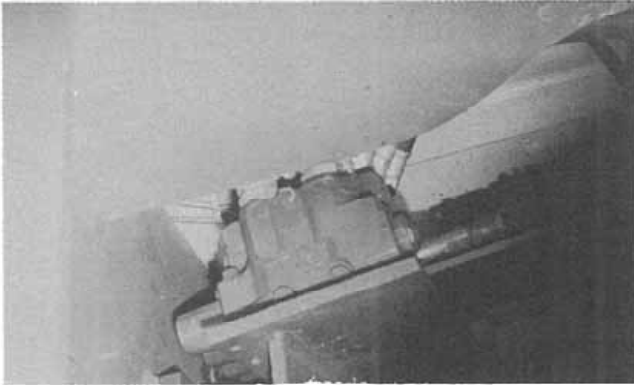

Figure 10:
13. Inside the cab, be sure the right hand control console is fully tilted upward. Under the cab, move the hydraulic control valve to the extreme left and as far upward as possible (Fig. 10), and secure with a wire routed through the cab handrail.